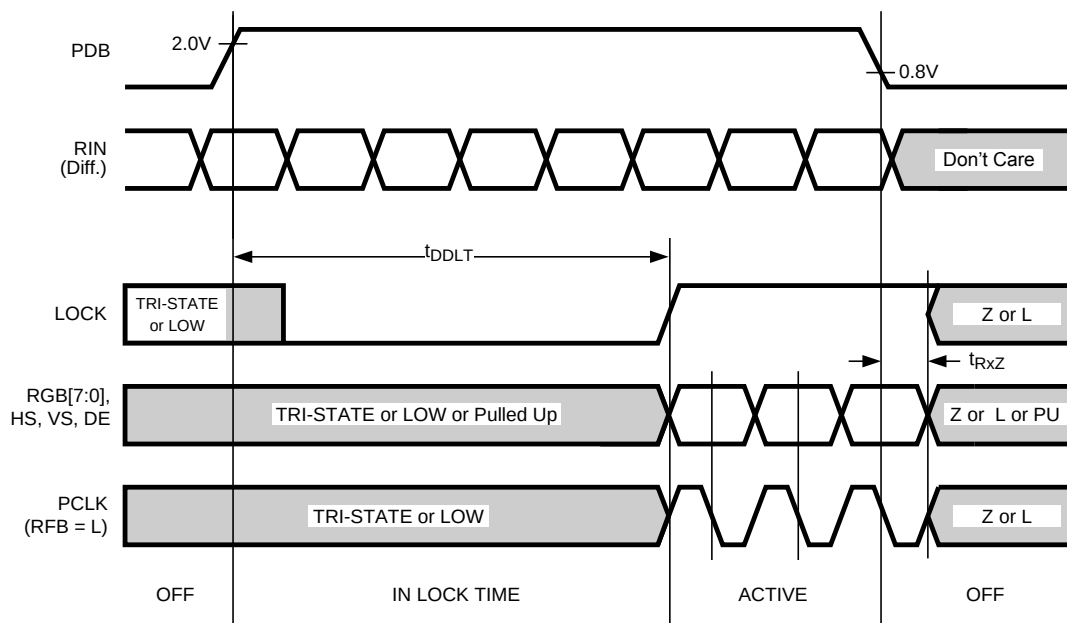

Figure 8. Deserializer PLL Lock Times and PDB TRI-STATE Delay(1)
| t DDLT               | Deserializer Lock Time, <a href="#">Figure 8</a>               | SSC[3:0] = 0000 (OFF) (1)                                                    | PCLK = 5 MHz              |       | 3     |       | ms               |